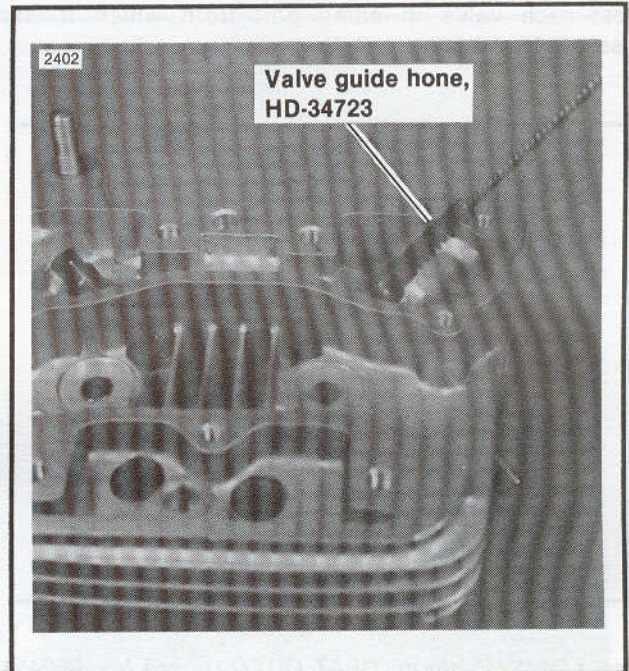

Figure 3-24. Hone Valve Guide
5. See Figure 3-24. Finish size the guide bore with the VALVE GUIDE HONE, Part No. HD-34723. Drive hone with an electric drill and work for a crosshatch pattern of approximately 60°. Lubricate hone with honing oil.